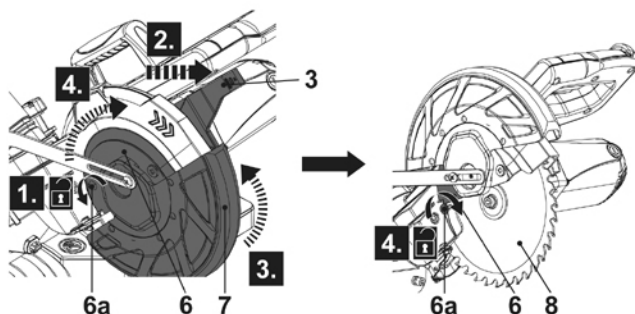

Fig. 13
- > Loosen the screw (6a) on the guard mounting plate (6) with the provided tool (32) (Fig. 13, step 1) and remove it from the product.
- > Press the blade guard release lever (3) (step 2) and then rotate the guard mounting plate (6) and lower retractable blade guard (7) upwards (step 3).
- > Reattach the screw (6a) (step 4) to hold the guard mounting plate and expose the saw blade (8).